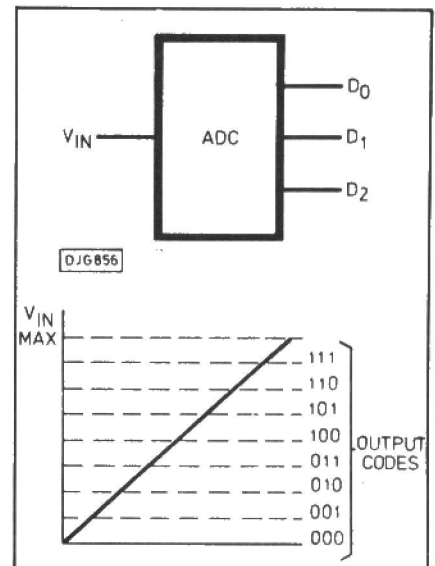

Fig.2. A 3-bit adc showing output codes
A device which outputs a digital code which is proportional to an analogue signal present at its input. For example, a 3-bit converter as shown in Fig.2, will give all 1s (111) when the input is a maximum voltage, all 0s (000) when the input is zero, and a binary mixture of 1s and 0s for voltages between zero and maximum.